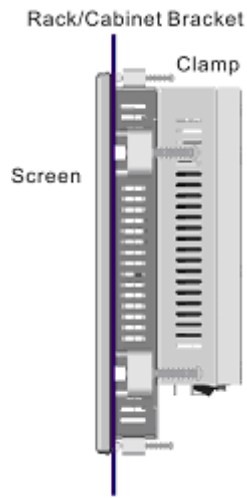

Figure 4-31: Secure the PPC-3708A-N270 Rack/Cabinet Bracket
Step 3: Tighten the screws that pass through the rack mounting clamps until the plastic caps at the front of all the screws are firmly secured to the bracket (**Figure 4-31**).